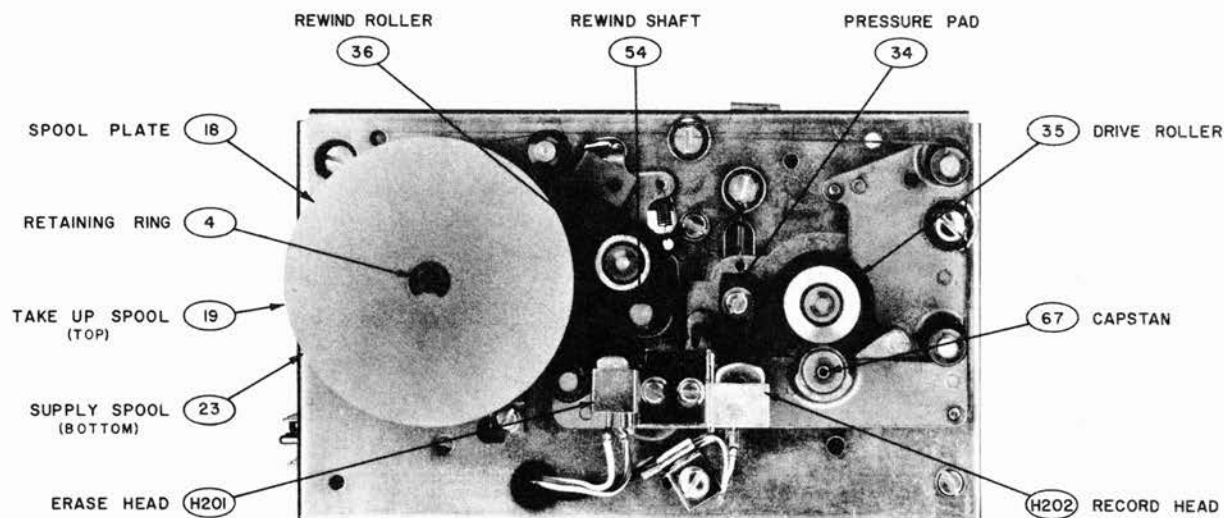
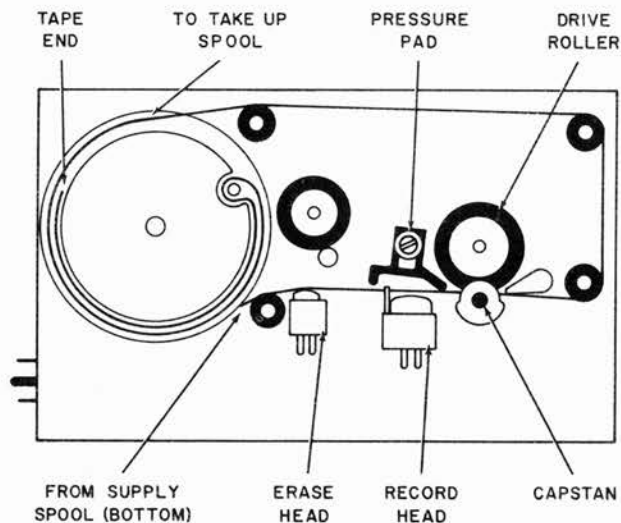
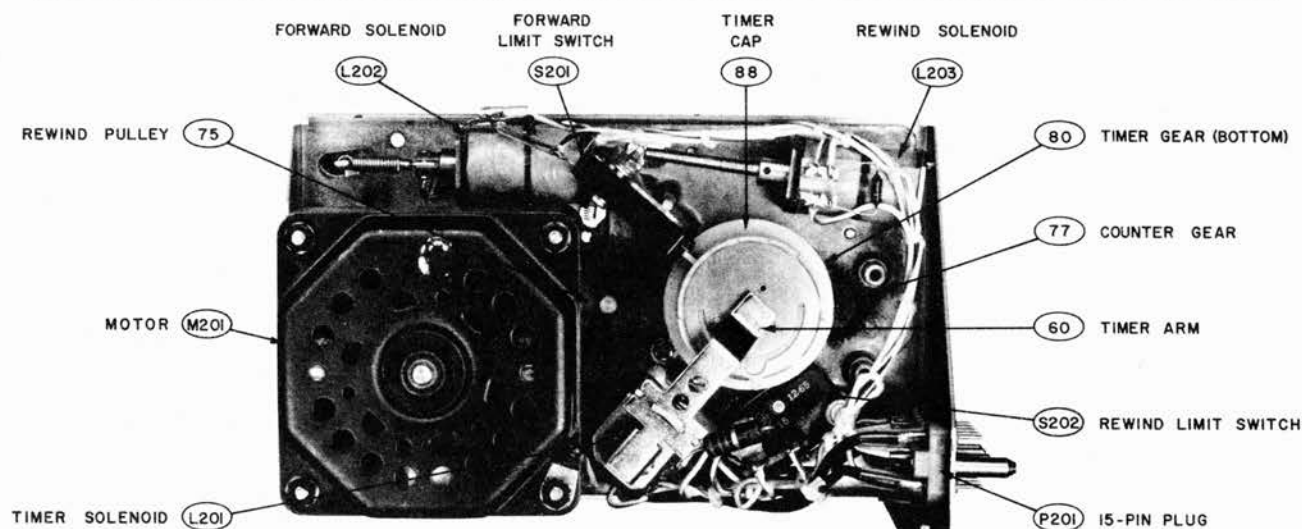

FIGURE 16 "A" DECK FRONT VIEW, COVER REMOVED
FIGURE 17 "A" DECK TAPE PATH
FIGURE 18 "A" DECK REAR VIEW
- (1) Remove "A" Deck from machine (page 12).
- (2) Remove 3 screws and "A" Deck Cover. The "A" Deck mechanism will be visible as in fig. 16.
- (3) Remove Retaining Ring and Spool Plate (fig. 16).
- (4) Rotate spools clockwise to wind tape onto Supply Spool until end of tape is visible.
- (5) Disconnect tape from Take Up Spool and carefully allow Take Up Spool to rotate until clock spring inside is relaxed.
- (1) Wind 35 feet or 64 turns of 3M Brand No. 591 recording tape onto Supply Spool. Connect end of tape to spool in the manner shown in fig. 17, but wind the tape counterclockwise, with the oxide (dull) side facing outwards.
- (2) Make sure that the small roller on the Timer Gear is midway between Rewind Limit Switch and Counter Gear (fig. 18).
- (3) Replace Supply Spool, making sure that it meshes with its drive pin. Leave approximately 2 feet of tape free.
- (4) Thread tape as shown in fig. 17. Do not secure free end of tape yet.
- (5) Replace Mylar washer.
- (6) Replace Take Up Spool, making sure that end of clock spring hooks onto pin on Supply Spool.
- (7) Hold Supply Spool and wind Take Up Spool clockwise to wind up clock spring. Rotate Take Up Spool until
- (8) Connect free end of tape as shown in fig. 17.
- (9) Rotate spools counterclockwise to wind tape 10 turns onto Take Up Spool.
- (10) Replace Spool Plate and Retaining Ring (fig. 16).
- (11) Replace "A" Deck Cover with three #6-32 x 5/32" screws and lock washers.
- (1) Remove "A" Deck (page 12).
- (2) Remove 3 screws and "A" Deck Cover.
- (3) With swab moistened in alcohol, clean Erase Head, Record Head, Pressure Pad, Drive Roller and Capstan (fig. 16).
- (3) Remove 4 nuts and Motor (fig. 18).
- (4) Remove both drive belts.
- (5) With cloth moistened in alcohol, clean flywheel, motor pulley, both drive belts, and Rewind Pulley (fig. 18).
- (6) Replace both drive belts.
- (7) Replace Motor, securing with 4 #6 nuts and lock washers.
- (8) Rap Motor laminations sharply with soft faced mallet to align motor bearings.
- a. Pressure Pad (fig. 16):
- (1) Depress Forward Solenoid plunger by hand (fig. 18).
- (2) Loosen clamp screw and adjust Pressure Pad so that the recording tape wraps lightly around face of Record Head (fig. 16).
- b. Forward Solenoid (fig. 18):
- (1) Depress solenoid plunger only with sharp instrument.